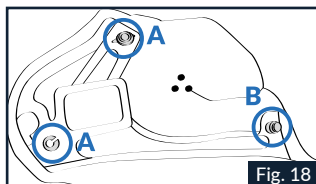

Fig. 18
2.1 Unhook the three eyelets "A" of the rear frame of the left cheek pad slot next to the two snap buttons (front and rear) on the back (Fig.18).
two snap buttons (front and rear) on the back (Fig.18).